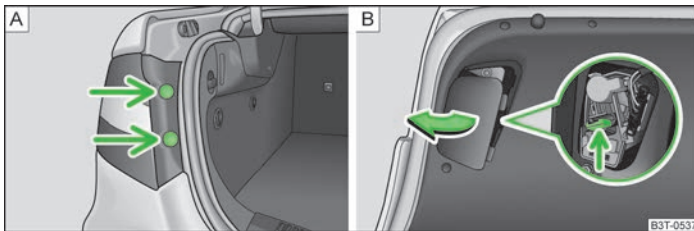

Fig. 189 Outer part of the tail light/Removing the internal part of the tail light
- › Remove the plug » Fig. 189 - **A** and unscrew the tail light with a torx wrench » page 196, *Vehicle tool kit*.
- › Screw the tail light into place and push in the plugs » Fig. 189 - **A**.
- › Remove the tail light cover on the inner side of the boot lid » Fig. 189 - **B**.
- › Press the lug » Fig. 189 - **B** and remove the lamp holder from the tail light housing.